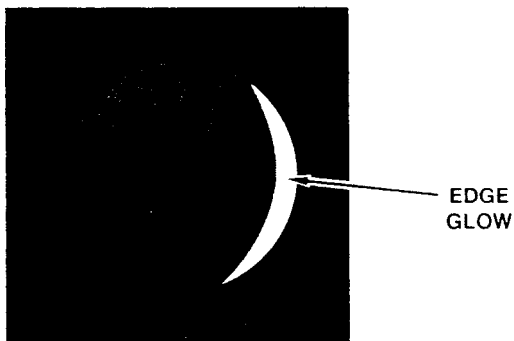

Figure 2-4. Edge Glow.
b. Edge Glow. Edge glow is a bright area (sometimes sparkling) in the outer portion of the viewing area (fig. 2-4). To check for edge glow the operator can block out all light by cupping a hand over the lens. If the image tube is displaying edge glow the bright area will still show up. Do not if edge glow is present. Return to the maintainer.